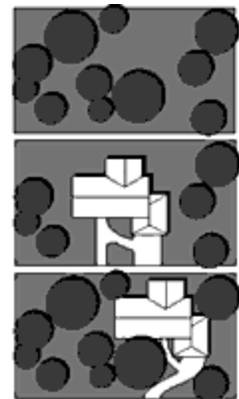

Figure 4. You may be able to save some trees by siting the new
3. **Select the trees to be saved.** Examine the site carefully and note how each tree fits into the future landscape. Keep in mind that the builder may be able to shift the location of a building, utility line, or driveway. Although local ordinances differ, driveways and utility lines don't always have to be straight, and homes don't always have to be in the center of the lot (Figure 4). If considerable damage to the tree's root system within the PRZ is inevitable, you should seriously consider changing the original design, adding protection measures, or removing the tree before construction begins.